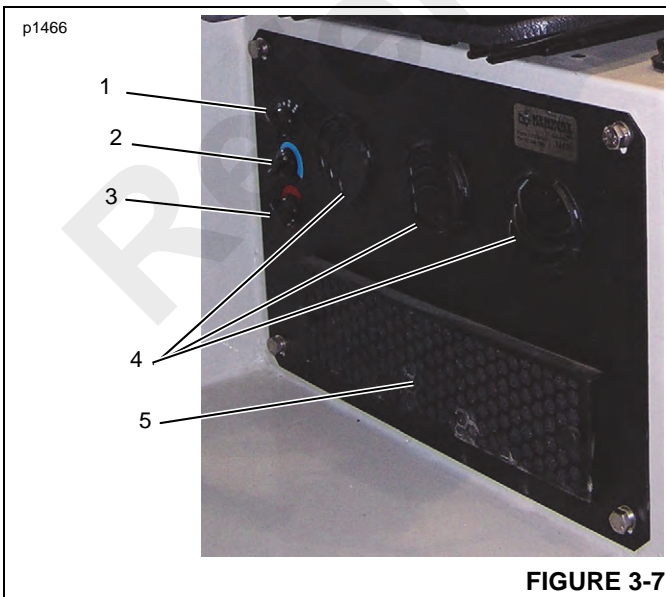

FIGURE 3-7
The Fan Switch (1) (Figure 3-7) is a four-position switch which controls the speed of the fan.